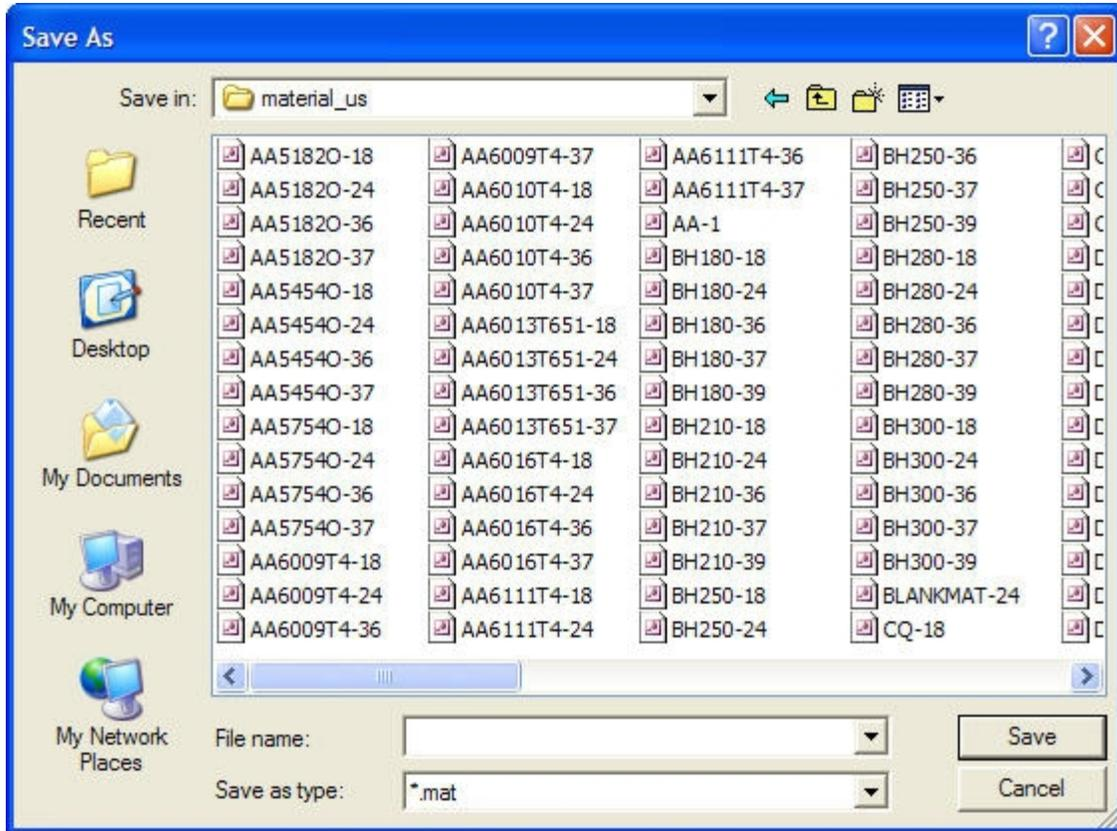

Figure 8.2.25 Export Material window
**EXPORT:** Allow the user to export and write the current material into a file. The file is saved with an extension “.mat”. The Export Material window is illustrated in Figure 8.2.25.